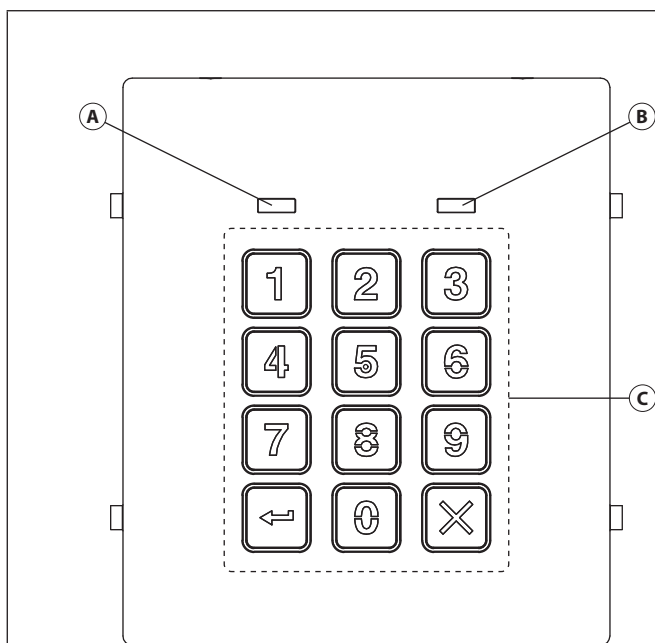

Fig. 1 Front
4. When power is restored to the codelock wait for the module to emit a single beep and the red status LED (**Fig. 1**, **Ⓑ**) to flash once;
5. Listen for the confirmation tone and wait for the red status LED (**Fig. 1**, **Ⓑ**) to flash once again;
4. When power is restored to the codelock wait for the module to emit a double beep and the red status LED (**Fig. 1**, **Ⓑ**) to flash once;